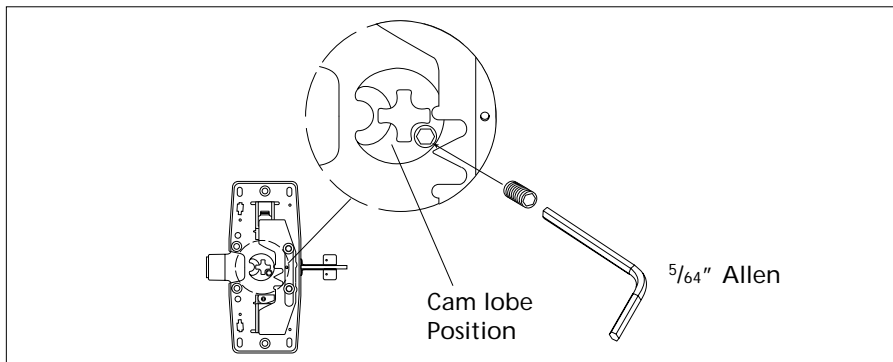

Figure 7
- 3) Verify if the drive screw is present on the cam of the exit device. See figure 7 below. If yes go to the next step. If not present, rotate the cam to the position shown on figure 7 and install the drive screw provided with the operator. Make sure the screw head is under the cam face and firmly tightened. Refer to Von Duprin installation instructions for more details.